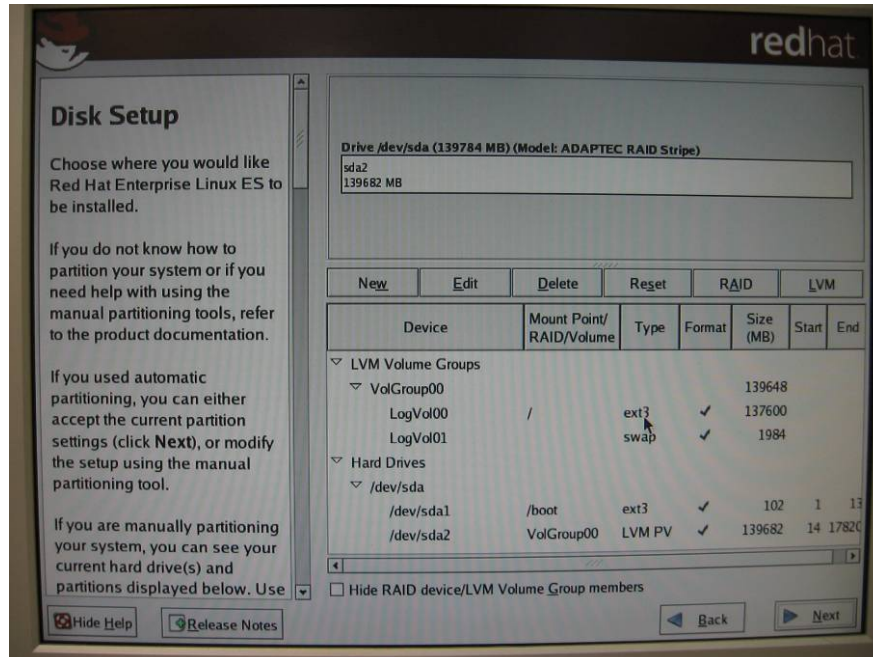

Figure 5-12 Disk Setup
2. No changes for Processor Configuration. (Figures 5-12 & 5-13)